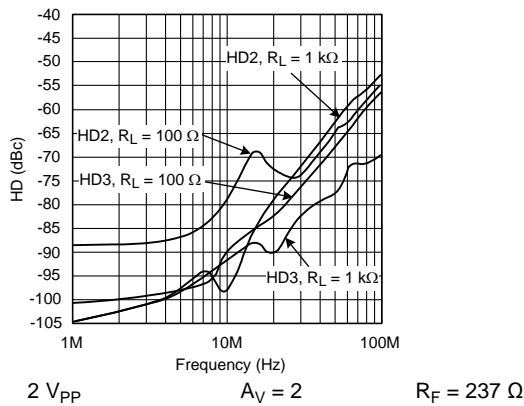

Figure 9. Harmonic Distortion vs Load and Frequency (SOIC Package)
2. Ultra-low distortion approaching -87 dBc at the lower frequencies and exceptional noise performance (see Figure 9 and Figure 17).